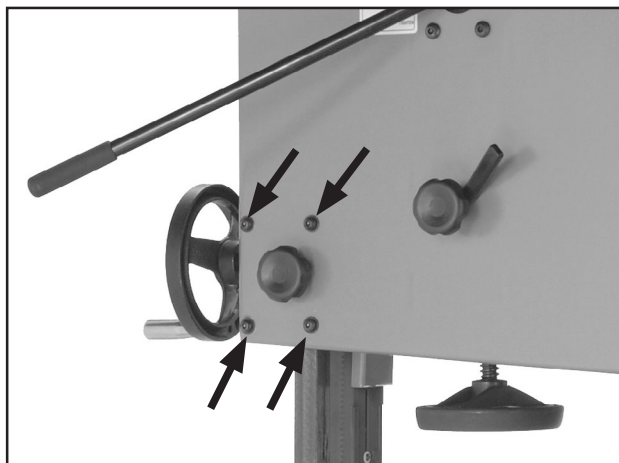
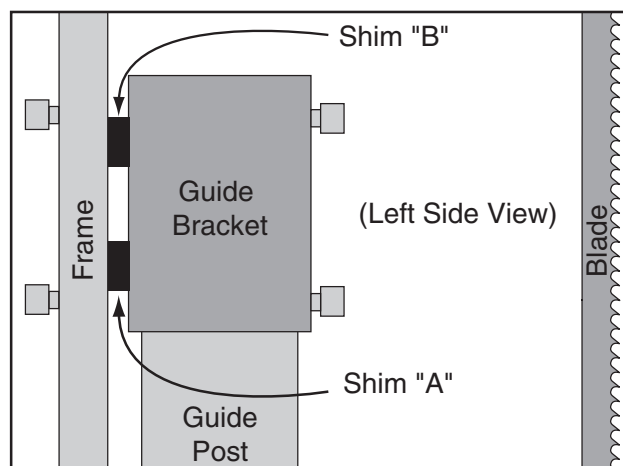

Figure 81. Guide post adjustment screws.
Figure 83. Location for placing shims.
7. Loosen each of the four screws shown in **Figure 81** $\frac{1}{4}$ turn.
9. Tighten the screws shown in **Figure 81**.
7. Loosen the four screws shown in **Figure 81** enough to fit metal shims between the frame and the guide post bracket (see **Figure 83**).
8. Tighten the four screws shown in **Figure 81**, then repeat **Steps 4–5**.